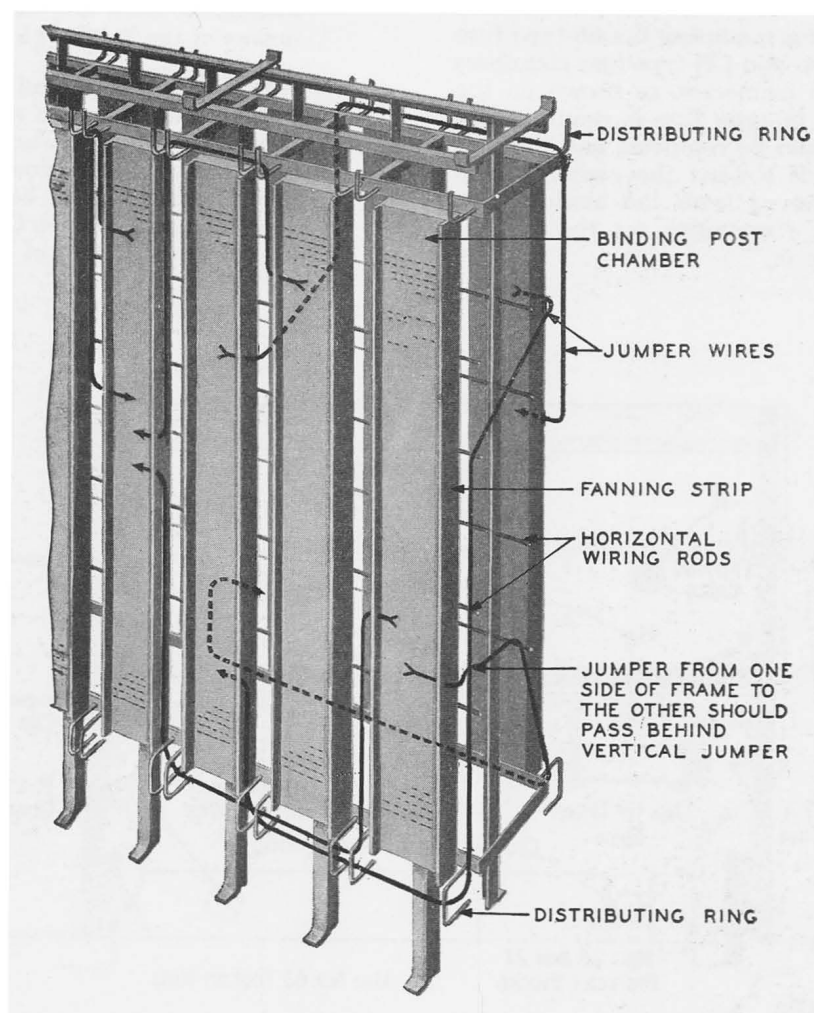

FIG. 5—CROSS-CONNECTION ARRANGEMENT ON A FRAME-TYPE TERMINAL
5.01 Place cross connections on frame-type inside wiring terminals as shown in Fig. 5 (which shows a typical arrangement of cross connections on a double-sided frame). Cross connections on single-sided frames are the same as the cross connections between binding posts on the same side of a double-sided frame.